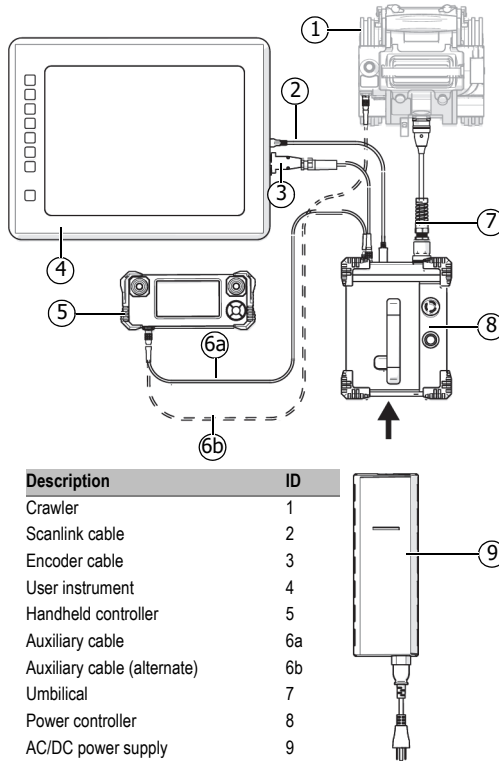

Figure 3-1 Base configuration
1. Connect the power controller (8) to the crawler using the umbilical (7) (see Figure 3-1 on page 130).
2. Connect the handheld controller (5) to the power controller (8) using the controller cable (3) (see Figure 3-1 on page 130).
3. Connect the instrument (4) to the power controller (8) using the encoder cable (3) (see Figure 3-1 on page 130).
4. Insert the AC/DC power supply (9) into the power controller (8).
1. Mount the raster arm module to the crawler (see Figure 3-1 on page 130 and “Raster Arm Module” on page 65).
2. Connect from the raster arm to the crawler using the raster arm cable (see Figure 3-1 on page 130 and “Setting up the Raster Arm Cable” on page 70).